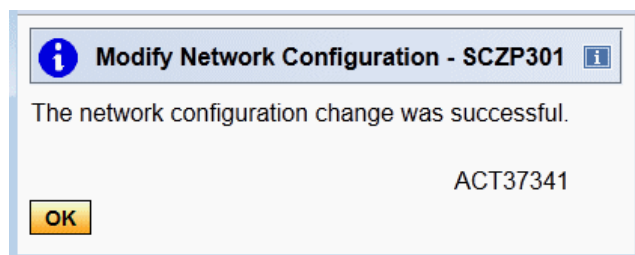

Figure 4-10 Configuration change confirmation - ACT373341
5. Select **OK** on the final confirmation message (Figure 4-10).